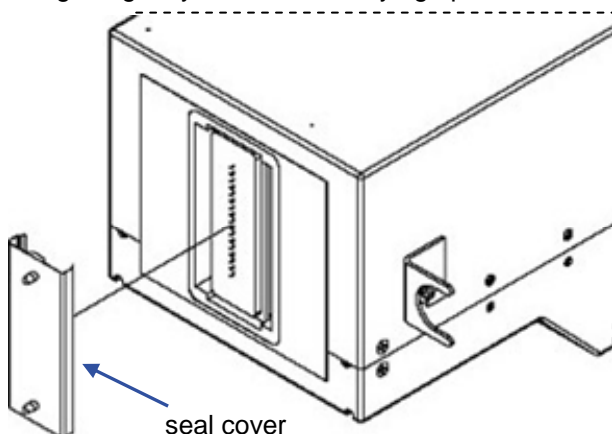

Fig. 4.7.1
- c). Remove the seal cover from the front of the print head - see Fig. 4.7.1.